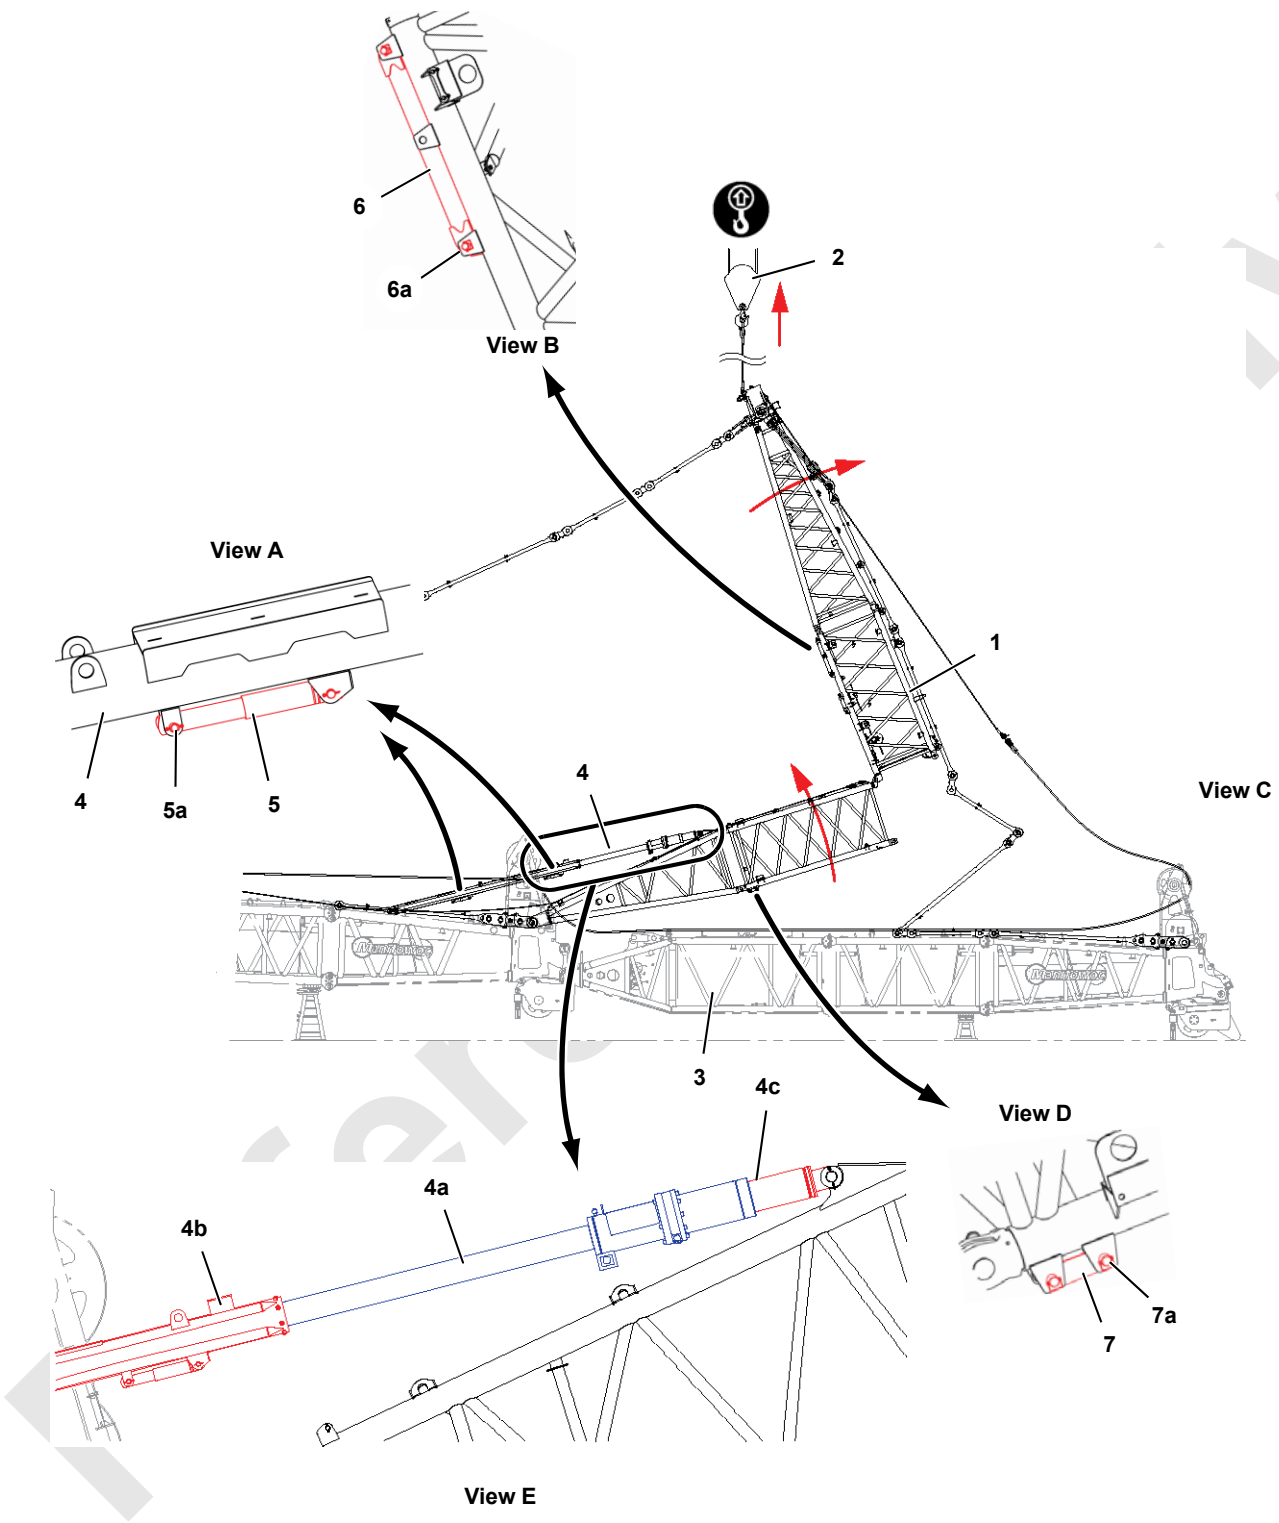
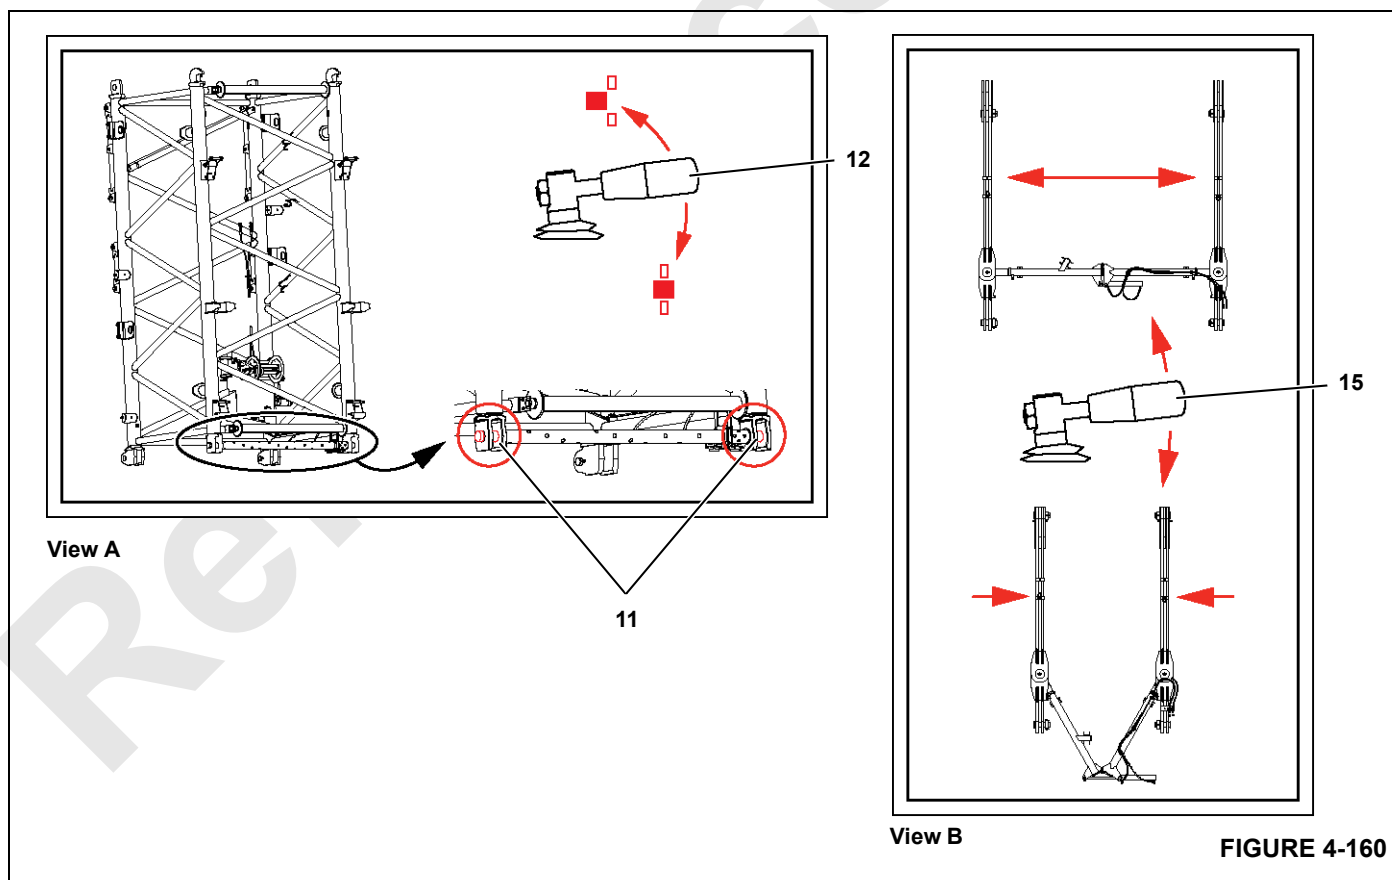

FIGURE 4-159
FIGURE 4-160
See Figure 4-159 for the following procedure.
FIGURE 4-159 continued
Legend for Figure 4-159 continued
See Figure 4-159 continued for the following steps.
Also see Figure 4-160
Legend for Figure 4-159 continued and Figure 4-160
- c. Fully engage strut connecting pins (11, View J) with control handle (12, View M and Figure 4-160, View A).
- e. Push keeper plates (14, View L) UP and reinstall quick-release pins (13) to LOCK the connecting pins in the ENGAGED position.
17. Fully extend backstay strap spreader with control handle (15, View M and Figure 4-160, View B).